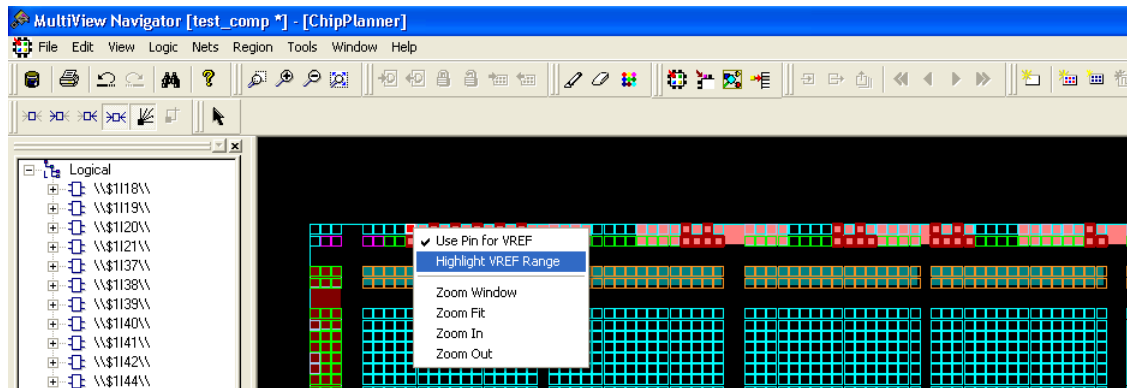

Figure 8-15 • V_{REF} Range
- Right-click and then choose **Highlight VREF range**. All the pins covered by that V_{REF} pin will be highlighted (Figure 8-15).